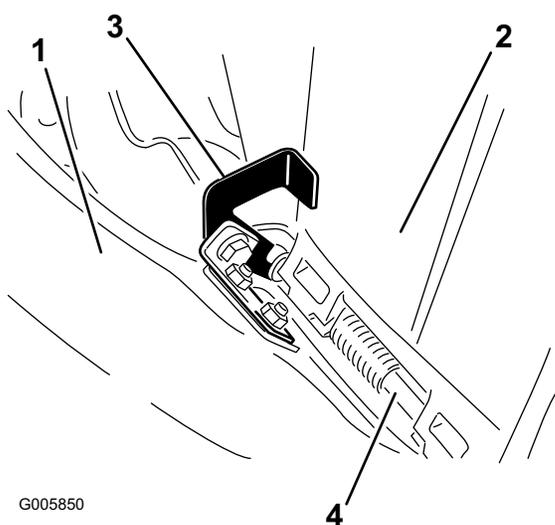

Figure 15
- On the top of the chute, engage the hook shaped latch around pivot rod of the deflector assembly as shown in Figure 15.